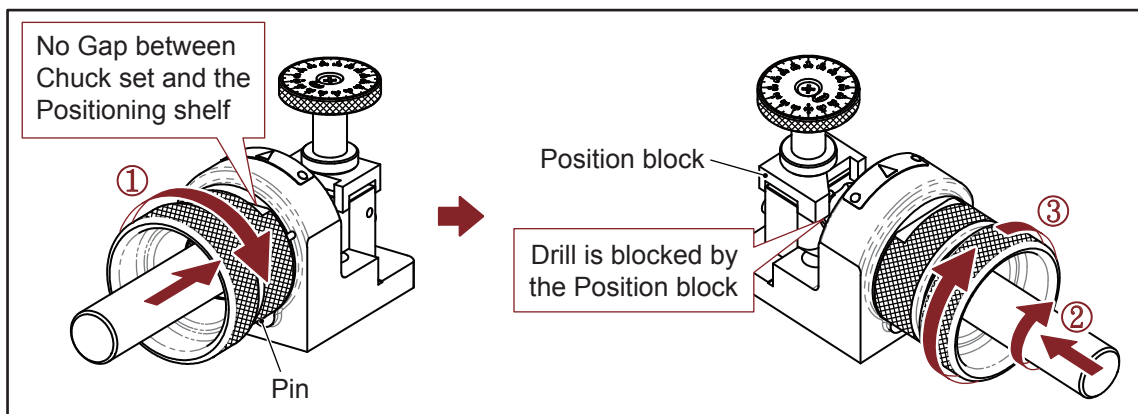

Fig. 7-2
3. Drill Positioning (Fig. 7-2)
- ① Insert the Chuck set into the Positioning Shelf, align slot of the clamping nut with the pin on the Positioning Shelf, then connect it closely without any interval and turn it clockwise to the end.
- ② Push the drill to the end and turn it by clockwise until it is blocked by the Position block.
- ③ Turn the collet holder clockwise and tighten lightly the Chuck set.
- ④ Rotate the Chuck set counterclockwise and take it out gently.
- ③ Check the diameter of a drill and adjust the scale according to drill diameter. (See chapter “VII. The use of the Positioning Shelf”)
- ④ Check the position block on the Positioning shelf, if it is damaged, please contact with your agent for replacement.
- ⑤ When adjusting the length position, make sure the chuck set is tightly connect to the shelf without gap. (See page 11, Fig 7-2)